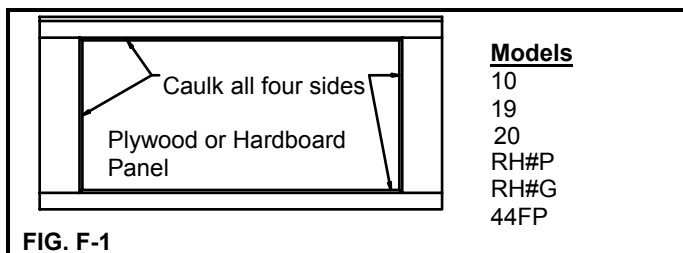
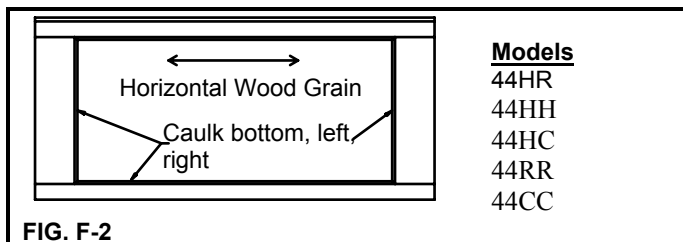
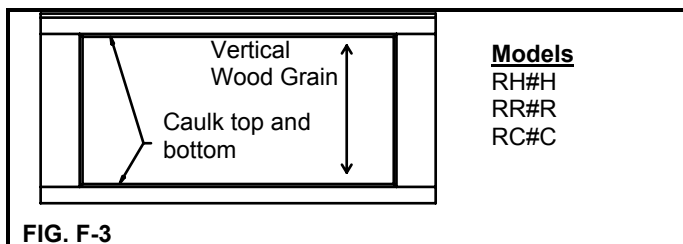

FIG. F-1
FIG. F-2
FIG. F-3
NOTE: For optimum long lasting performance the spaces between the rails or stiles and the door panel should be caulked with a paintable caulk prior to painting the door. For plywood and hardboard panel doors, all (4) sides of each panel should be caulked (Fig. F-1). For hemlock, cedar, or redwood panel doors with wood grain running horizontally, the bottom, left, and right sides of the panels should be caulked (Fig. F-2). For hemlock, cedar, or redwood panel doors with wood grain running vertically, the top and bottom of the panels should be caulked (Fig. F-3).
NOTE: For optimum long lasting performance on a stained door, the spaces between the rails or stiles and the door panel should be caulked with a clear silicone caulk after staining the door. For plywood and hardboard panel doors, all (4) sides of each panel should be caulked (Fig. F-1). For hemlock, cedar, or redwood panel doors with wood grain running horizontally, the bottom, left, and right sides of the panels should be caulked (Fig. F-2). For hemlock, cedar, or redwood panel doors with wood grain running vertically, the top and bottom of the panels should be caulked (Fig. F-3).